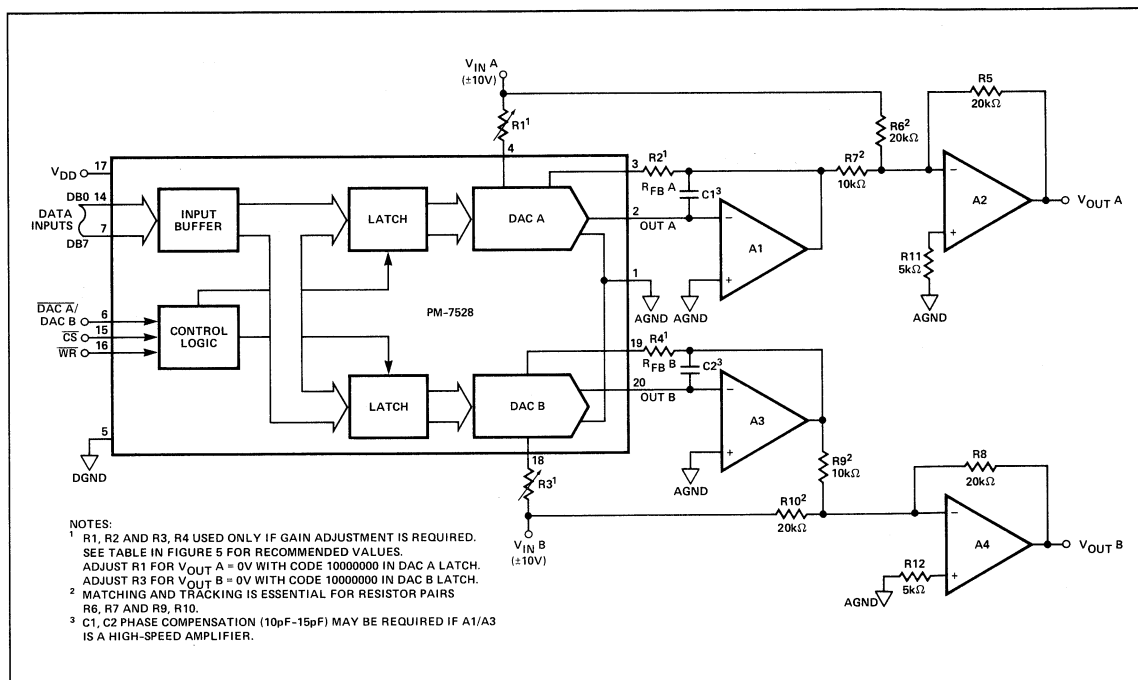

FIGURE 6: Dual DAC Bipolar Operation (4 Quadrant Multiplication). See Table 2.
For bipolar output operation connect the PM-7528 as shown in Figure 6. This circuit configuration provides an offset current, derived from the reference, to enable the output op amp to swing in both polarities. The digital input coding becomes offset binary. Table 2 provides some example analog outputs for various digital inputs (D). The transfer equation for bipolar operation is $V_{OUT} = V_{IN} \times (D/128 - 1)$, where D is the decimal value of the data bit inputs DB0 thru DB7. This circuit provides full four-quadrant multiplication able to accept both polarities on all inputs as well as the circuit output.